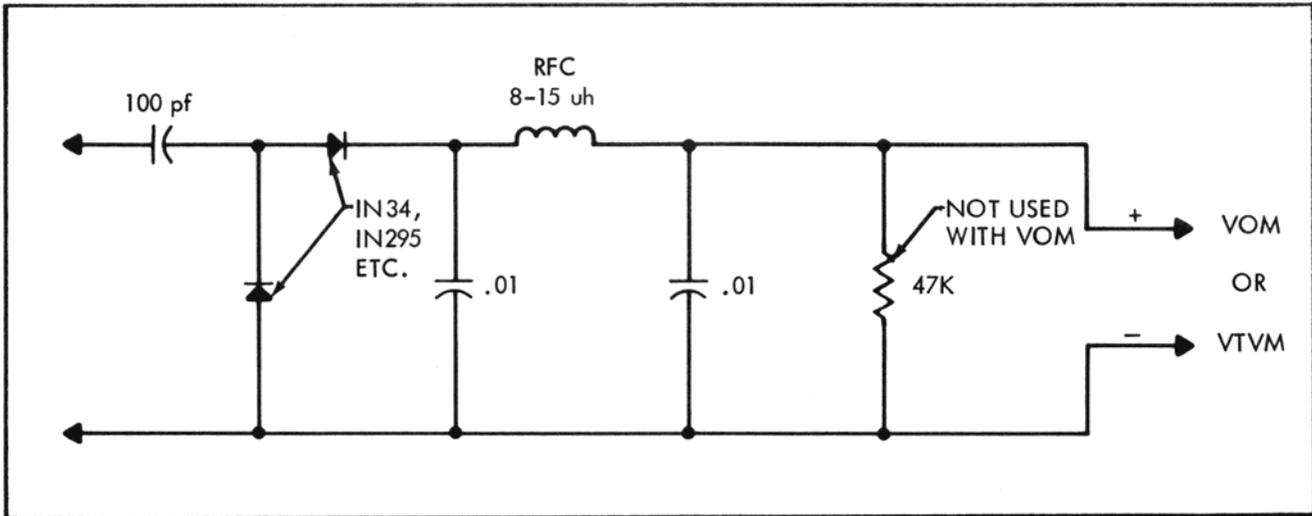

Figure 4-2 RF Probe
2. Connect a multimeter through an RF probe to TP4. If no probe is available, one may be constructed as shown in Figure 4-2.